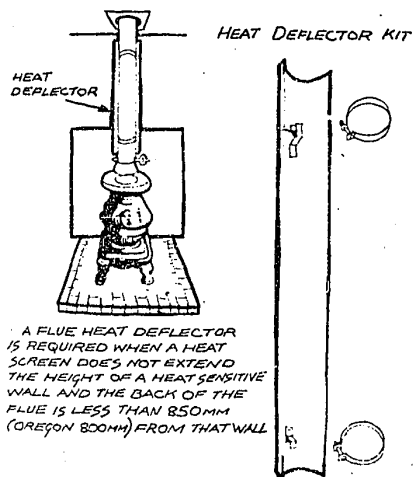

FIGURE 6
The screen must never be high and such a screen is wall distances not less than 800 mm). If the distance is less than 800 mm and the screen height of the wall, a flue fitted, Figure 6.
The screen must never be less than 1,200 mm high and such a screen is adequate on its own for wall distances not less than 850 mm. (Oregon 800 mm). If the distance is less than 850 mm (Oregon 800 mm) and the screen does not shield the full height of the wall, a flue heat deflector must be fitted, Figure 6.
than 850 mm (Oregon 800 mm) and the screen does not shield the full height of the wall, a flue heat deflector must be fitted, refer Figure 6.
The brick facing must extend at least 600 mm each side of the stove centreline and should be at least 1200 mm high. If the flue to wall distance is less than 850 mm (Oregon 800 mm) and the brick screen does not shield the full height of the wall, a flue heat deflector must be fitted, refer Figure 6.
2.1.11 If a Flue Heat Deflector is required, this may now be fitted to complete the installation, Figure 6. The bottom of the Flue Heat Deflector should not be less than 150 mm below the top of the heat screen on the wall. Assembly instructions accompany each Flue Heat Deflector Kit.